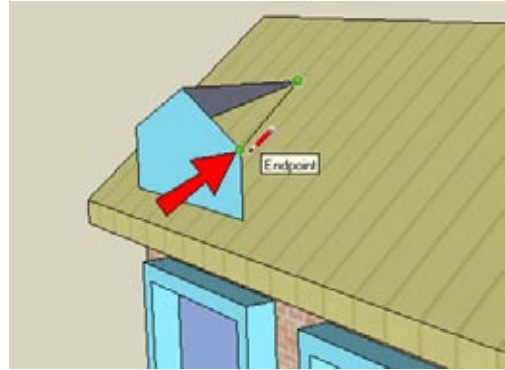

Figure 5-43
5. You could use the same method to complete the other side of the dormer, but if the dormer has all its sides, you'd need to hide a face in order to cut the hole in the roof. The bottom face of the dormer should be completed so that the roof hole can be cut first; then the remaining sides of the dormer can be created. Start the line at the back of the peak and hover over the corner indicated in Figure 5-43.